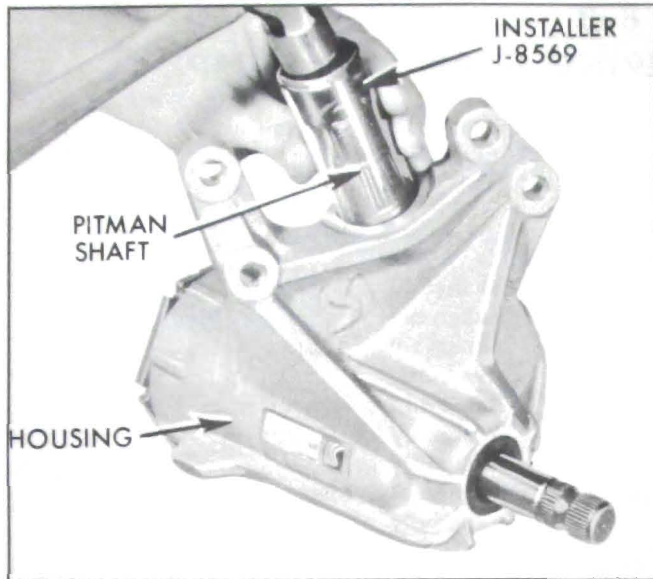

Figure 8-16—Installing Pitman Shaft Seal
8. To protect pitman shaft seal from damage, cover shaft splines with masking tape. Slide new seal into place and seat against shoulder in housing using Installer J-8569. See Figure 8-16.